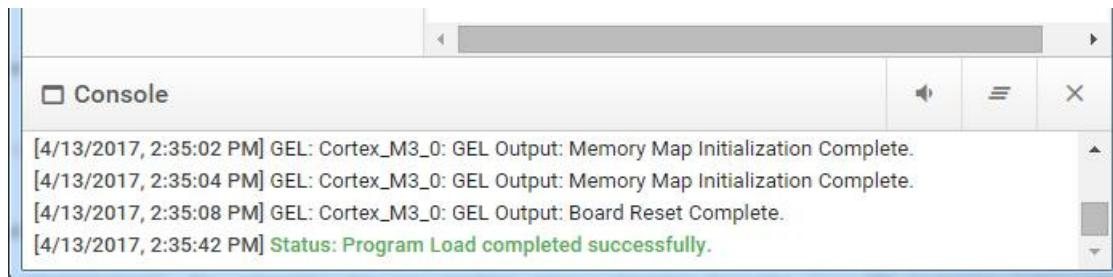

図 7. Successful Load
7. If loading the image was successful, a success message should show in the console as shown in 図 7.